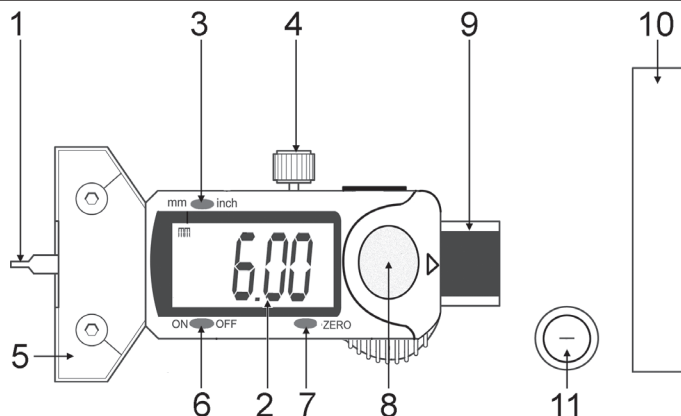

Figure 1
Prior to operation, perform a zero setting. To do this place the gauge foot on the zero set bar (fig.1 item 10) and press the probe down until it is level with the base then press the 'ZERO' button, the gauge has been set to zero when the LCD displays '0.00'. Note: After zero setting, the gauge retains this setting until the 'ZERO' button is pressed again or battery is removed.